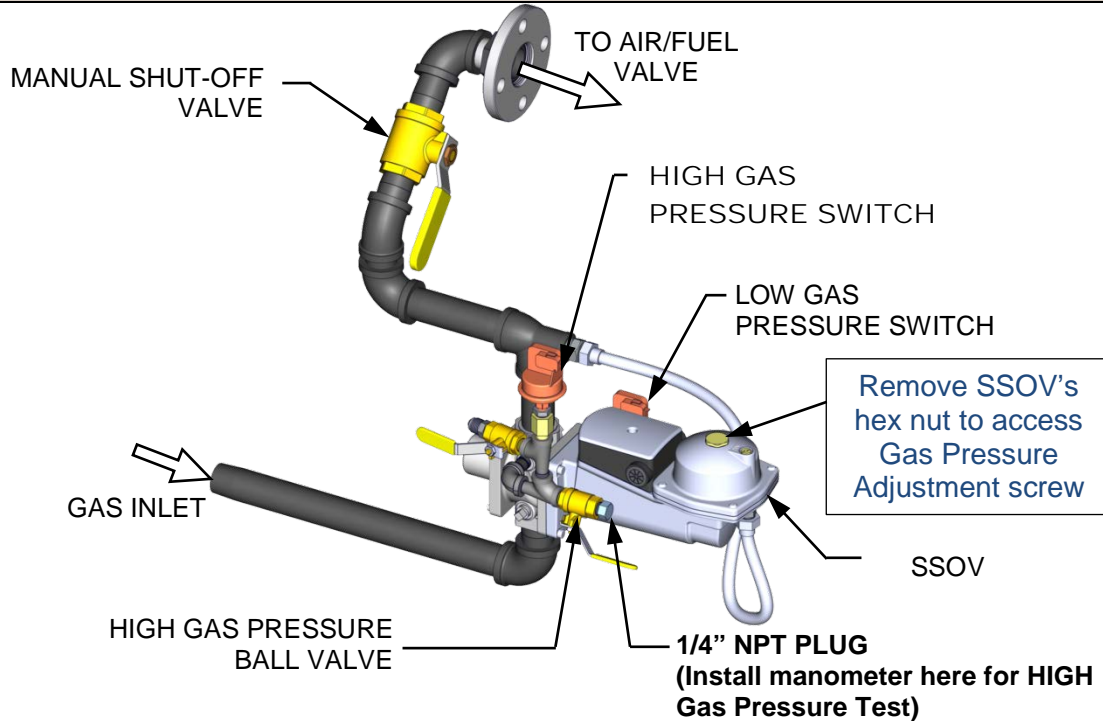

Figure 5-3a: BMK 750/1000: HIGH Gas Pressure Test Components
To simulate a high gas pressure fault, refer to Figure 5-3a through 5-3c and perform the following steps:
3. Close the manual gas shutoff valve located between the Safety Shut-Off Valve (SSOV) and the Air/Fuel Valve, as shown on Figure 5-3a, 5-3b and 5-3c, above.
9. Once flame is proven, close the manual gas valve located between the SSOV and the Air/Fuel Valve (see Figure 5-3a, 5-3b or 5-3c, above).